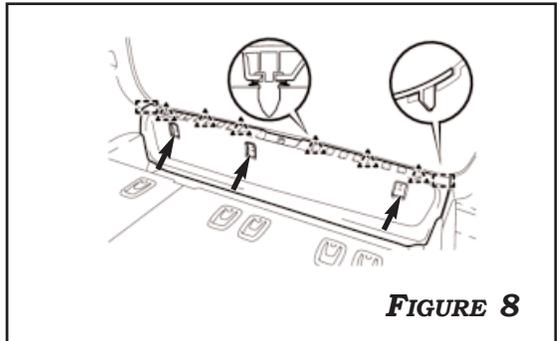

FIGURE 8
8. REMOVE (3) 10MM BOLTS. DISENGAGE 8 CLIPS TO REMOVE THE BACK DOOR SCUFF PLATE. **FIGURE 8**